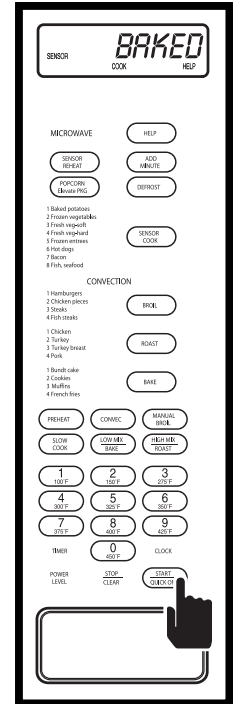

Figure 3-58.
3. Press QUICK ON/START key. When the sensor in the oven senses enough steam from the food, it will switch the microwave oven off, "END" will flash on display and alarm will beep. (See Figure 3-58)